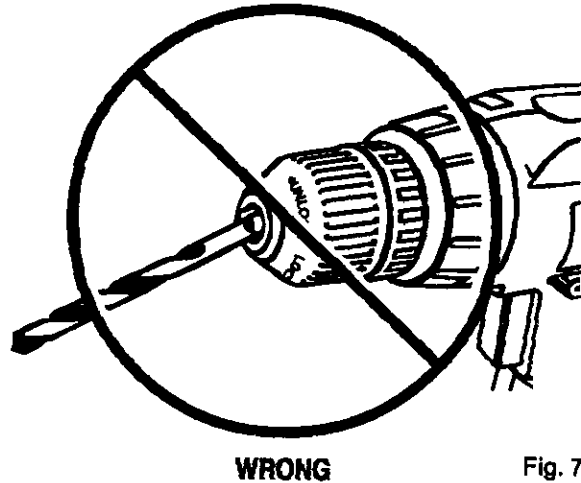

Fig. 7
- ▲ **WARNING:** Do not insert drill bit into chuck jaws and tighten as shown in figure 7. This could cause drill bit to be thrown from drill resulting in possible serious personal injury or damage to the chuck.